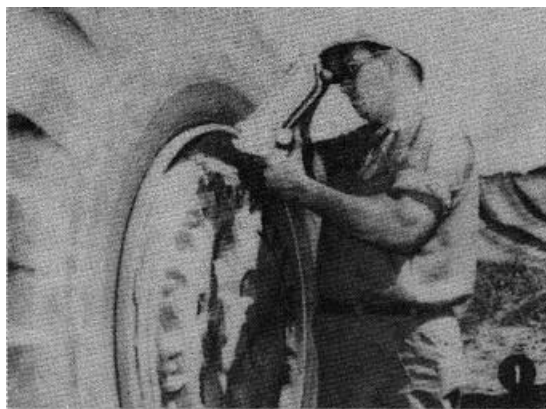

Figure 1.
1. Attach the TO-100 frame assembly to the outer rim flange by slipping the clamping jaws over the outer edge of the flange (fig. 1)